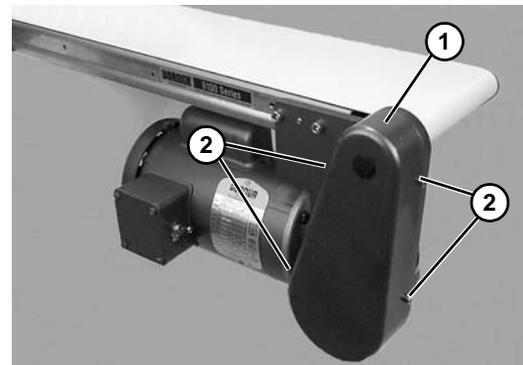

Figure 22
11. Install cover (**Figure 22, item 1**) with four (4) screws (**Figure 22, item 2**). Tighten to 35 in-lb (4 N-m).
1. Remove four (4) screws (**Figure 22, item 2**) and remove cover (**Figure 22, item 1**).
4. Install cover (**Figure 22, item 1**) with four (4) screws (**Figure 22, item 2**). Tighten to 35 in-lb (4 N-m).
6. Install cover (**Figure 22, item 1**) with four (4) screws (**Figure 22, item 2**). Tighten to 35 in-lb (4 N-m).